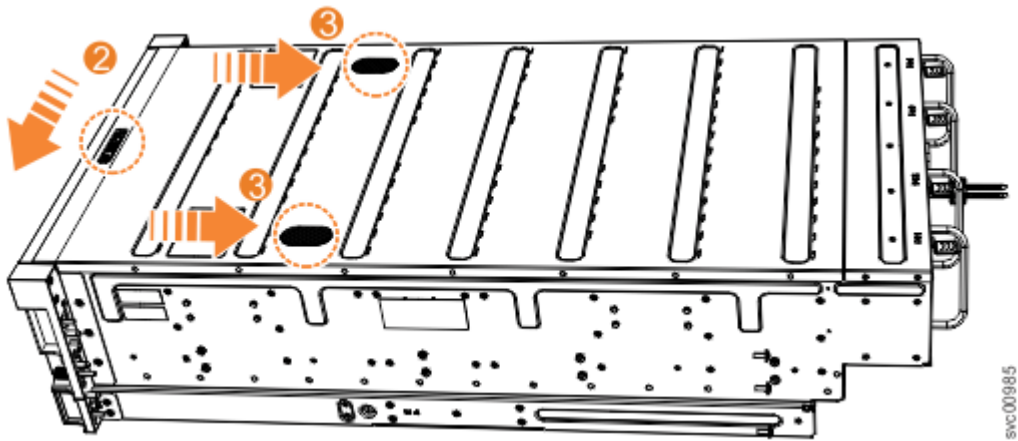

Figure 57. Replacing the 2077-92F top cover
2. Push the cover release lever to the side (2) as shown in Figure 57 on page 59.
3. Slide the cover towards the back of the enclosure (3) back until it stops, as shown in Figure 57 on page 59.